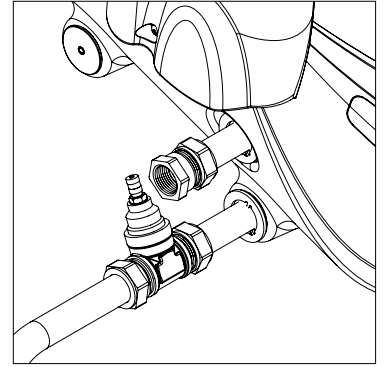

Figure 19. Test point assembly
5. Use a bicycle pump, connected to the test point (*Figure 19*) to pressurise the closed circuit to 100 kPa. Hold pressure for 10 minutes. Check the closed circuit for any connection leaks or drop in pressure. Ensure the collectors remain covered. Tighten any leaking fittings.